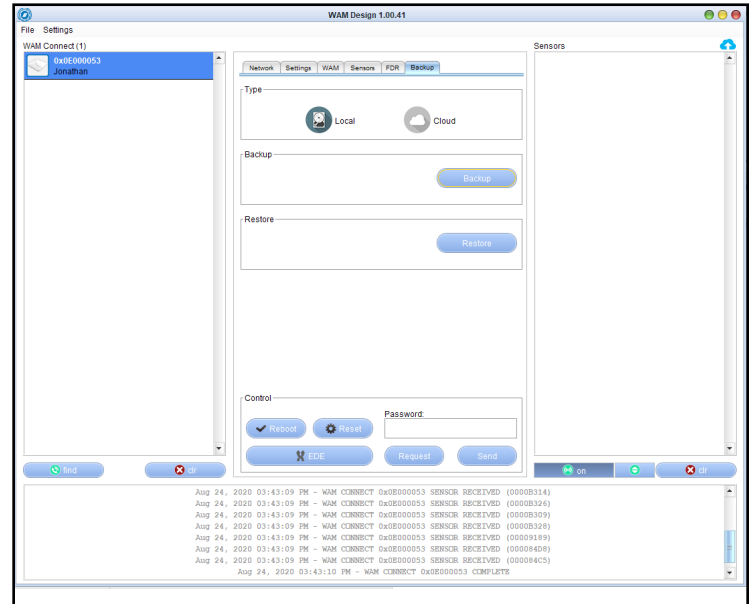
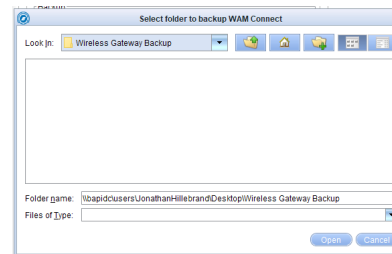

Fig. 17: Backup Tab on the Design Application Configuration Screen
Fig. 18: Select Backup Folder Screen.
2. Go to the center “Backup” tab and click the “Local” icon and then click the “Backup” button (Fig 17). This will open the “Select Backup Folder” screen (Fig 18).